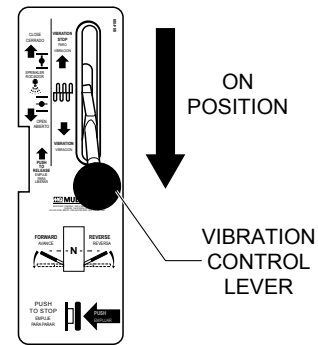

Figure 29. Vibratory Control Lever (ON)
1. For vibratory action with the engine running (full speed), place the vibratory control lever (Figure 29) to the **ON** position. The roller will now produce a vibratory frequency of 4,400 vps.